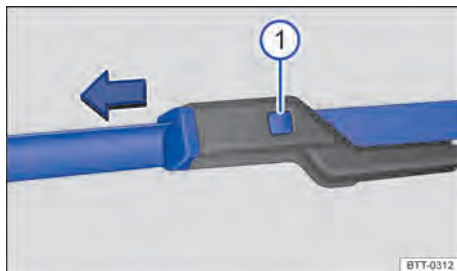

Fig. 163 Replacing windshield wiper blades.
- Press and hold the release tab → Fig. 163 ① and pull off the windscreen wiper blade in the direction of the arrow.